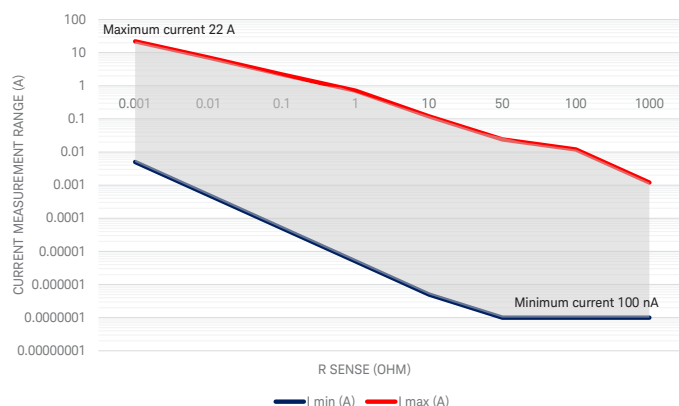

Figure 8. Minimum/maximum current measurement range with N2825A head, 500 mW sense R, solder attached, high resolution mode on
2. Max current varies with max resistor power rating. The examples in the Figure 8 and 9 assume 500 mW power rating.